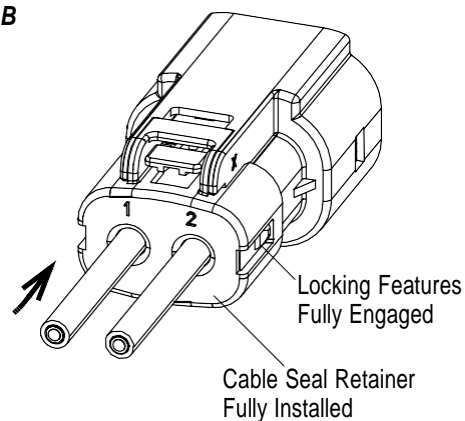

Figure 15
3. Fully insert the cable seal until it stops inside the back of the plug connector. See Figure 15, Detail A.
4. Fully install the cable seal retainer over the back of the plug connector, making sure that the bridge feature is correctly aligned with the plug connector latch feature. See Figure 15, Detail B.